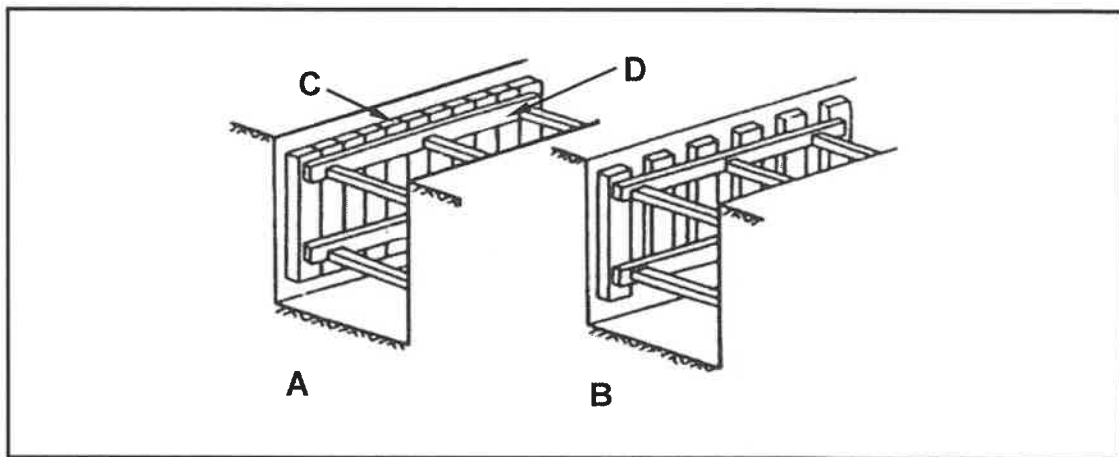

FIGURE 4.2
- 4.2 FIGURE 4.2 below shows two types of shuttering used in excavations. Study FIGURE 4.2 below and answer the questions that follow.